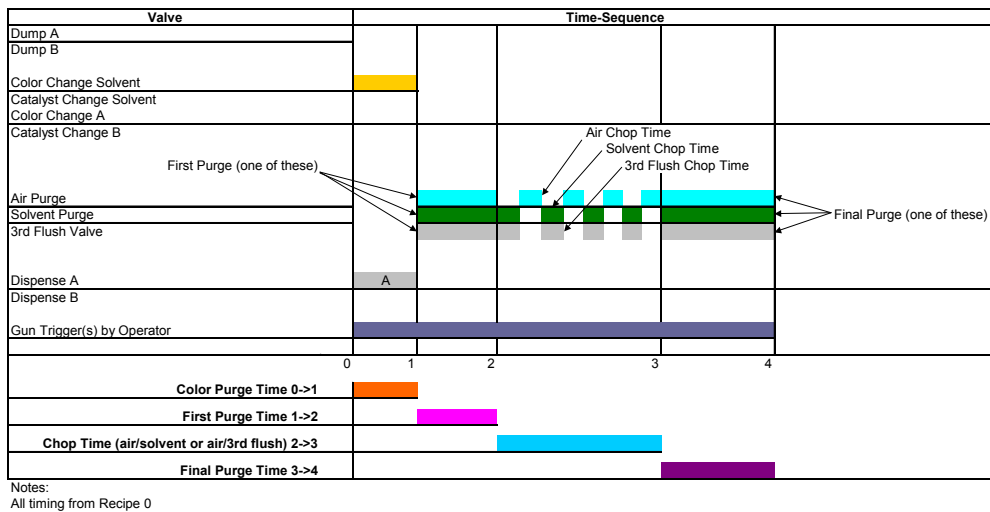
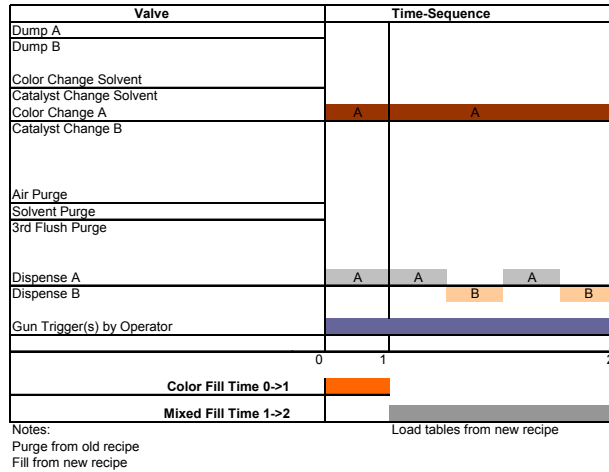

FIG. 80: Color Change Chart 12
FIG. 81: Color Change Chart 13
** FIG. 80 and FIG. 81 show color change. If the color is not changing, disregard that portion of the chart.